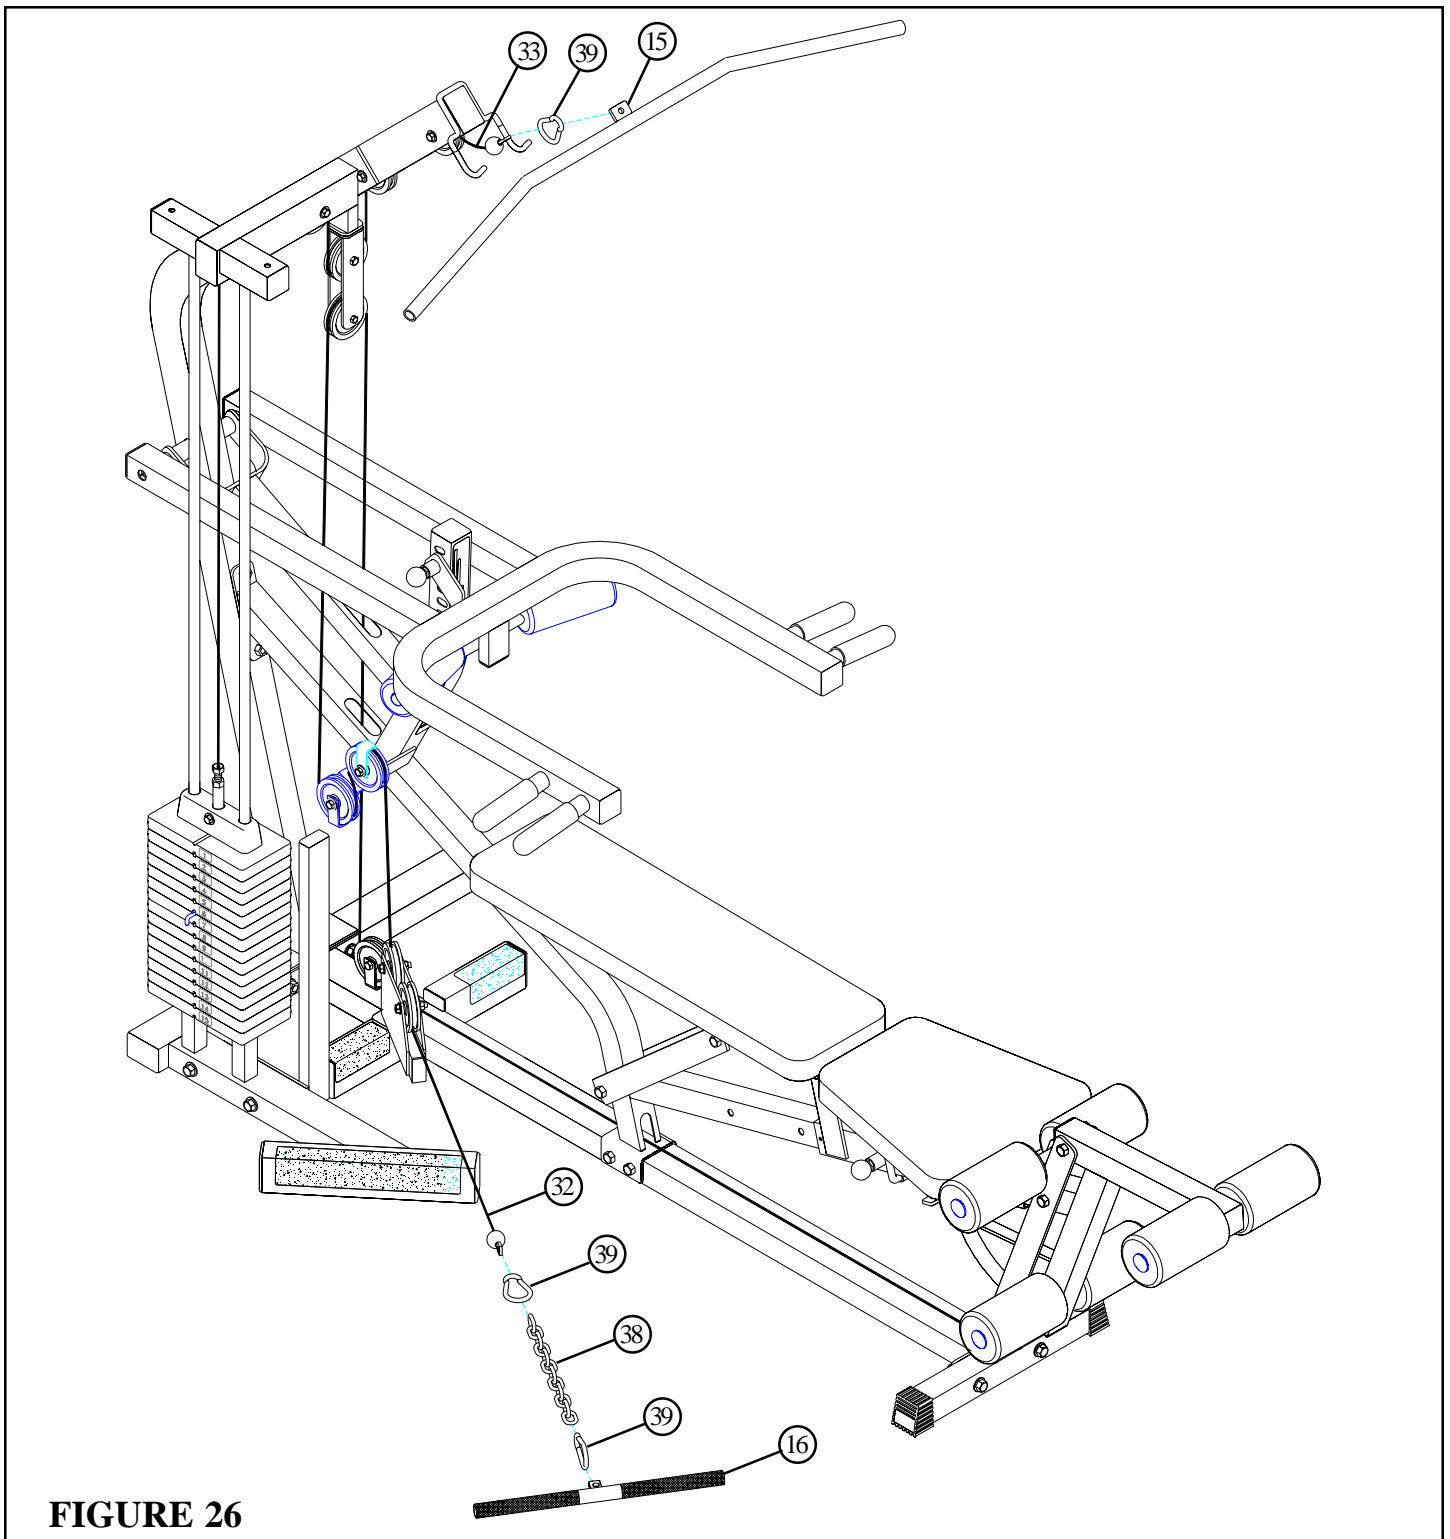

**FIGURE 25**
- **SECURELY** assemble two 3 X 7" ROLLER PADS (21) to the tube on the PRESS ARM (3) as shown in FIGURE 25. (NOTE: For ease of assembly, dampen inside of roller pads with water or rubbing alcohol.)
- Attach the LOW ROW BAR (16) to the ball end of the SECONDARY CABLE (32) using two 5/16" SNAPLINKS (39) and one CHAIN (38).
- Attach the LAT BAR (15) to the ball end of the PRIMARY CABLE (33) using one 5/16" SNAPLINK (39).